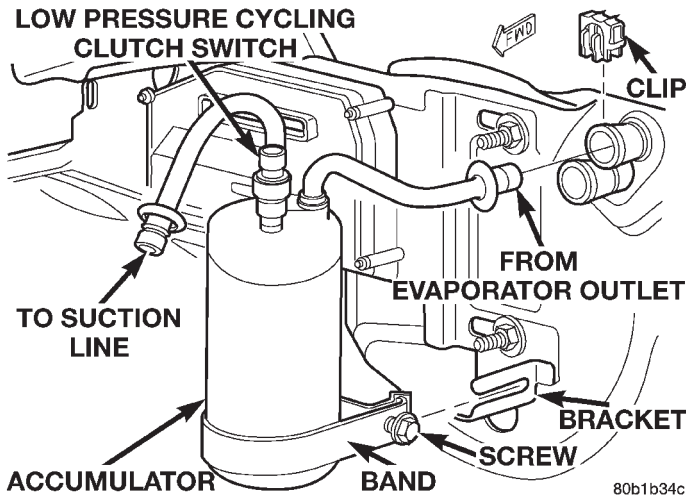

Fig. 33 Low Pressure Cycling Clutch Switch Remove/Install
(2) Unplug the wire harness connector from the low pressure cycling clutch switch on the top of the accumulator (Fig. 33).